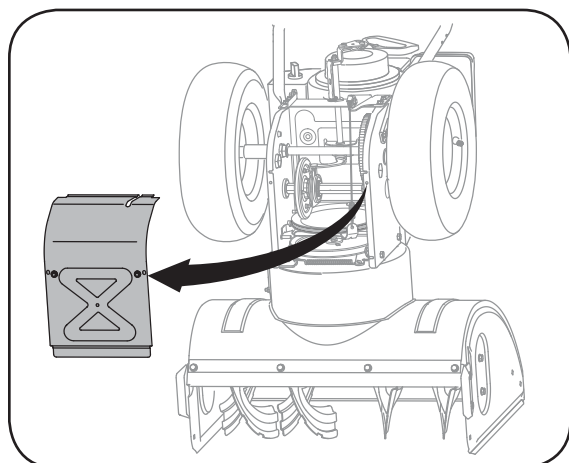

Figure 6-5
1. With the snow thrower tipped forward, remove the frame cover underneath the snow thrower by removing the self-tapping screws. See Figure 6-5.
2. Carefully pivot the snow thrower up and forward so that it rests on the auger housing. Remove the frame cover from the underside of the snow thrower by removing four self-tapping screws which secure it. See Figure 6-5.
2. Carefully pivot the snow thrower up and forward so that it rests on the auger housing. See Figure 6-5.
1. Carefully pivot the snow thrower up and forward so that it rests on the auger housing. See Figure 6-5.
2. Remove the frame cover from the underside of the snow thrower by removing four self-tapping screws which secure it. See Figure 6-5.